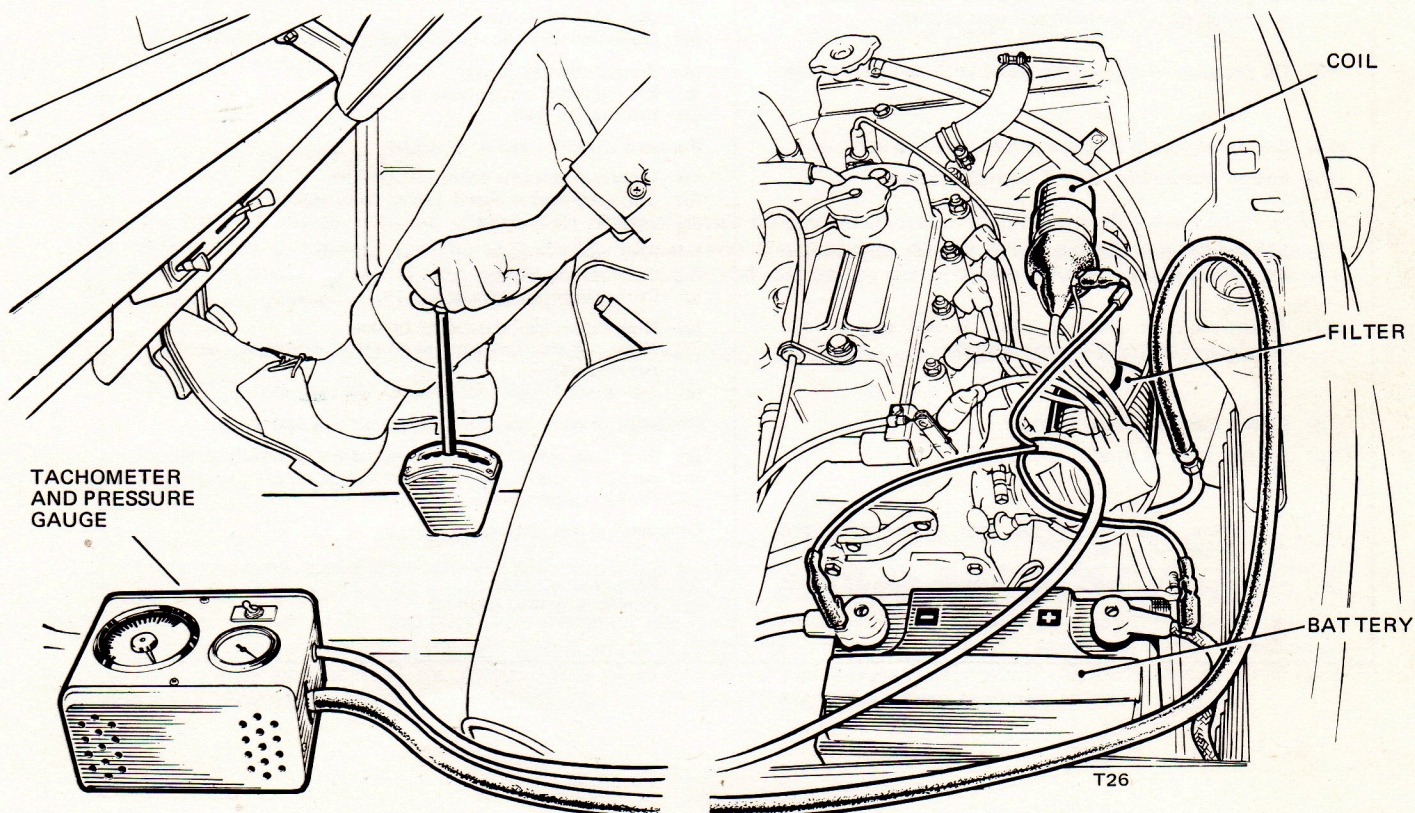

FIG. 58. TEST PACK CONNECTED READY FOR STALL TEST
- (1) Check engine oil level as detailed in general data.
- (2) Remove the small plug on the filter head and insert the straight adaptor supplementary to the test pack. **DO NOT OVERTIGHTEN.** Connect the oil pipe to the adaptor and connect the tachometer as shown in Fig. 58. Place the test pack where it can be seen from the driving seat.
- (3) Check that the handbrake is ON and apply the footbrake. Start engine.
- (4) Check the oil pressure in all gears, maintaining engine speed at 1,000 rpm.
Connect the tachometer to the engine, and place the test pack where it can be seen from the driving seat as shown in Fig. 58.